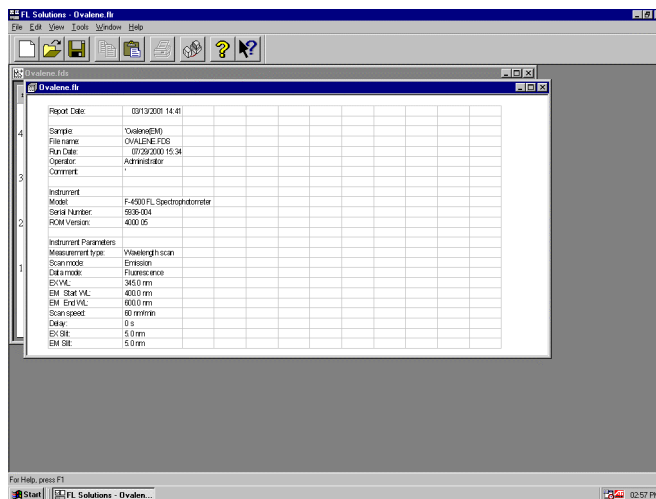

Fig. 6-29
- (4) Upon closing the Microsoft® Excel, the window in Fig. 6-29 appears. Now close this window. The original data processing window will appear again.